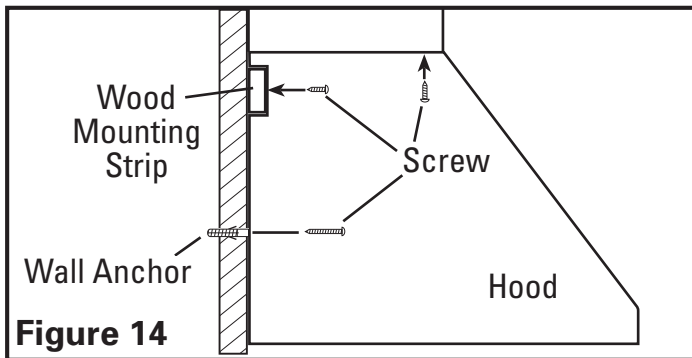

Figure 14
5. Rest the cavity in the back side of the hood on the wood strip and secure hood to wood strip with the included 3/4" screws through the holes in the back of the hood that line up with the wood strip (use 6 screws for 30" and 36" widths and 8 screws for larger widths) Secure the bottom of the hood by installing the screws provided into the wall anchors (**Figure 14**).
6. From inside the hood canopy, secure hood to the underside of the cabinet by using four wood screws (not included) through the keyhole slots of the hood (**Figure 14**).